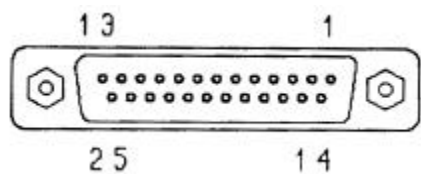

Figure 6-2 DB-25, JN Port Serial Connector
The 8530 JN serial port supplies 20 mA current loop (CL) and RS-232 interfaces for both input and output of serial data in either demand or continuous format output. The serial data format can be configured for 7 or 8 data bits, 1 selectable parity bit (even, odd or none) and either 1 or 2 stop bits. A selectable checksum character can be included in the data transmission to provide transmission error detection. Refer to Tables 6-2, 6-3 and 6-4 and Figure 6-2 for JN Port interconnect information. Refer to Section 8 for a list of printer cables and mating connectors.